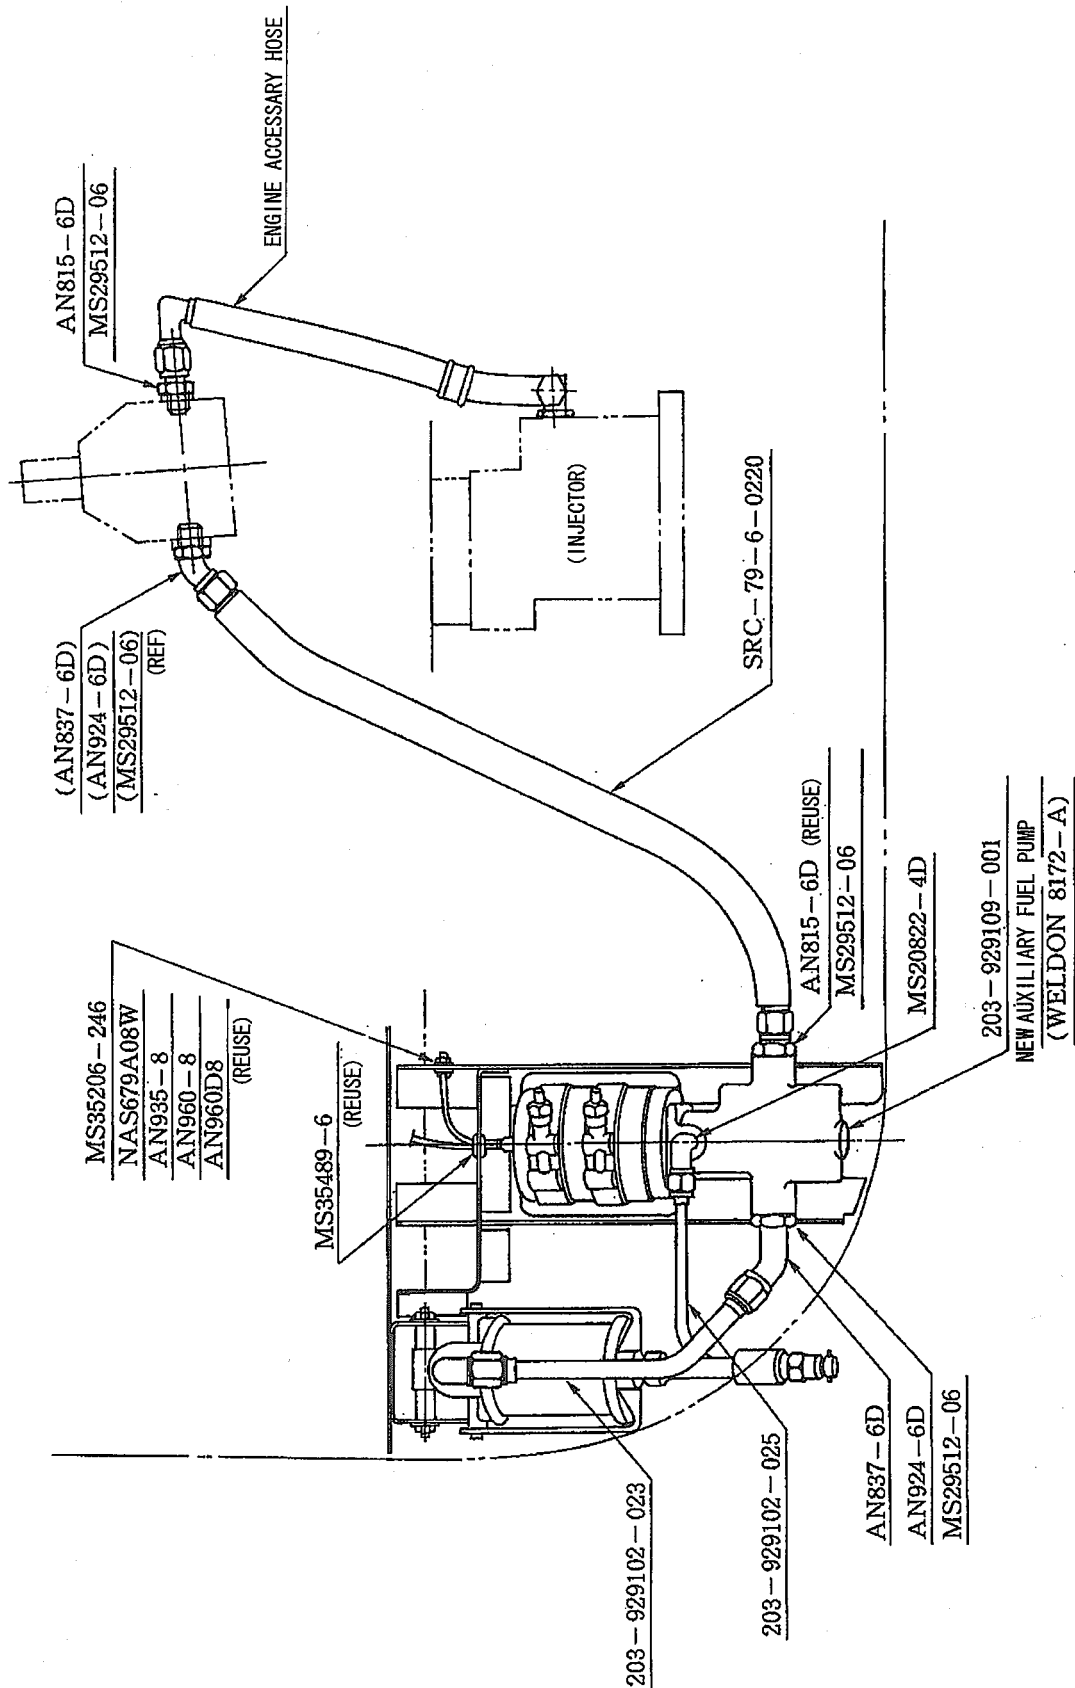
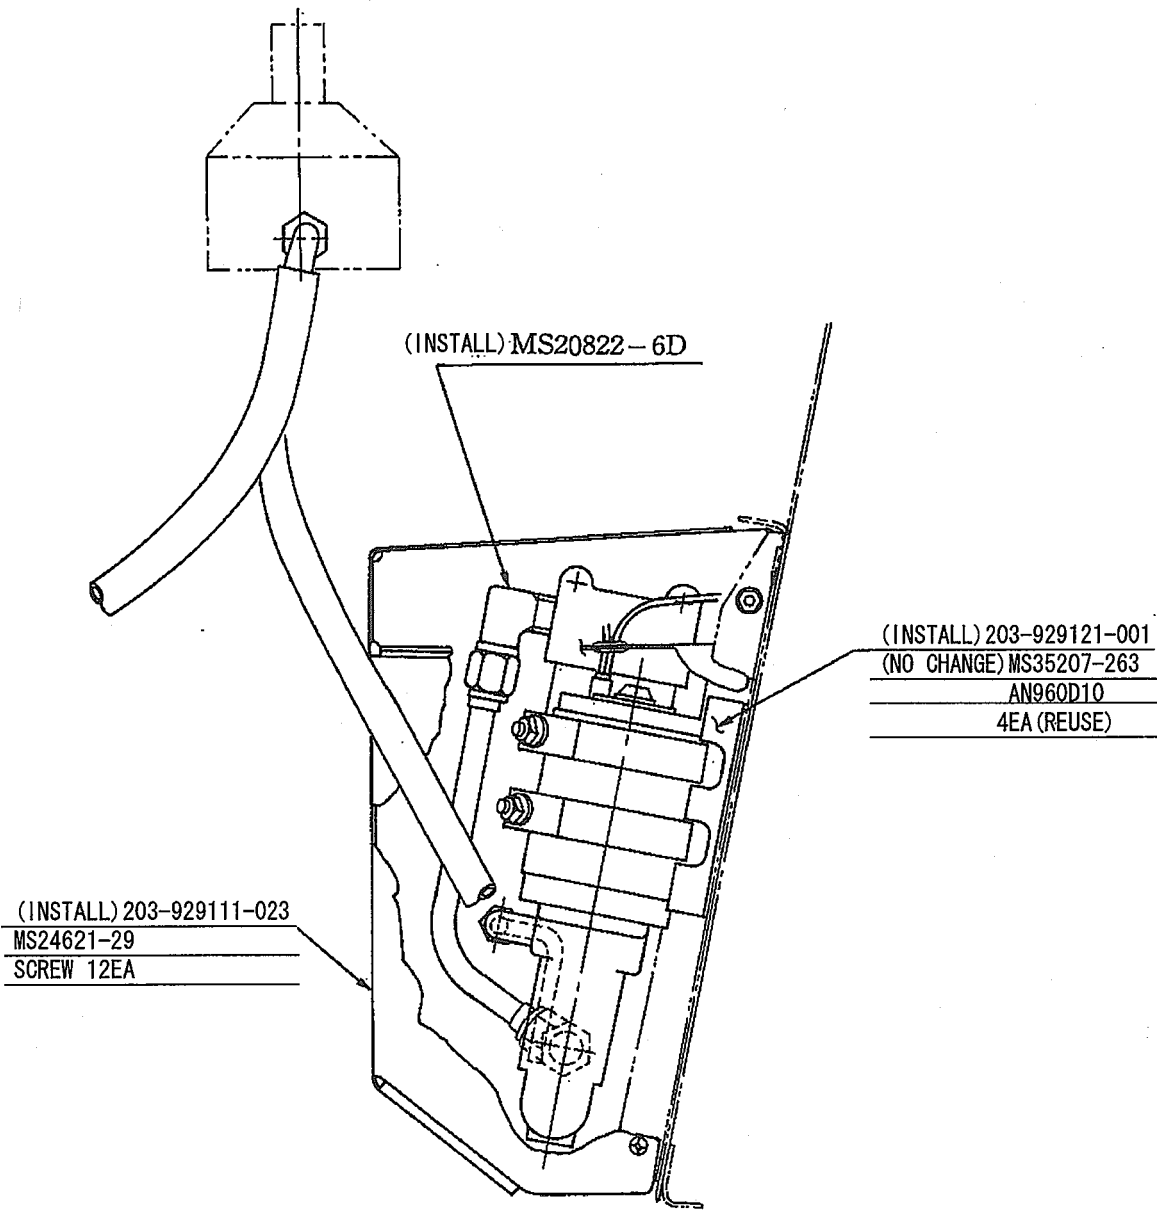

Figure 2 Fuel System Modification (Front View)
Figure 3 Fuel System Modification (Side View)
- (13) See Figure 3. Attach bracket P/N 203-929121-001 to the nutplates installed in the previous step, reusing four screws MS35207-263 and four washers AN960D10.
- (14) See Figure 2. Install new auxiliary fuel pump P/N 203-929109-001 on the above bracket. Install related wiring. Also install an elbow MS20822-4D and tube assembly P/N 203-929102-025.
- (15) Install union AN815-6D on engine driven fuel pump, using new packing MS29512-06 in place of the tee removed in the above step (7).
- (16) Connect hose P/N 74590, removed in the above step (4), in the same place.
- (17) Install on new auxiliary fuel pump the union AN815-6D removed in the previous step (6) using new packing MS29512-06. Install elbow AN837-6D on the opposite end with nut AN924-6D, using new packing MS29512-06.
- (18) Connect hose P/N SRC79-6-0220 between auxiliary fuel pump and engine driven fuel pump.
- (19) Install elbow MS220822-6D on fuel strainer in place of the tee removed in the above step (8).
- (20) Install tube assembly P/N 203-929102-023 between fuel strainer and auxiliary fuel pump.
- (21) Accomplish system cleaning and leak check as follows:
- (22) See Figure 3. Install cooling cover P/N 203-929111-023 with 12 screws MS24621-29.
- (23) Install engine cowlings and other items removed for access.